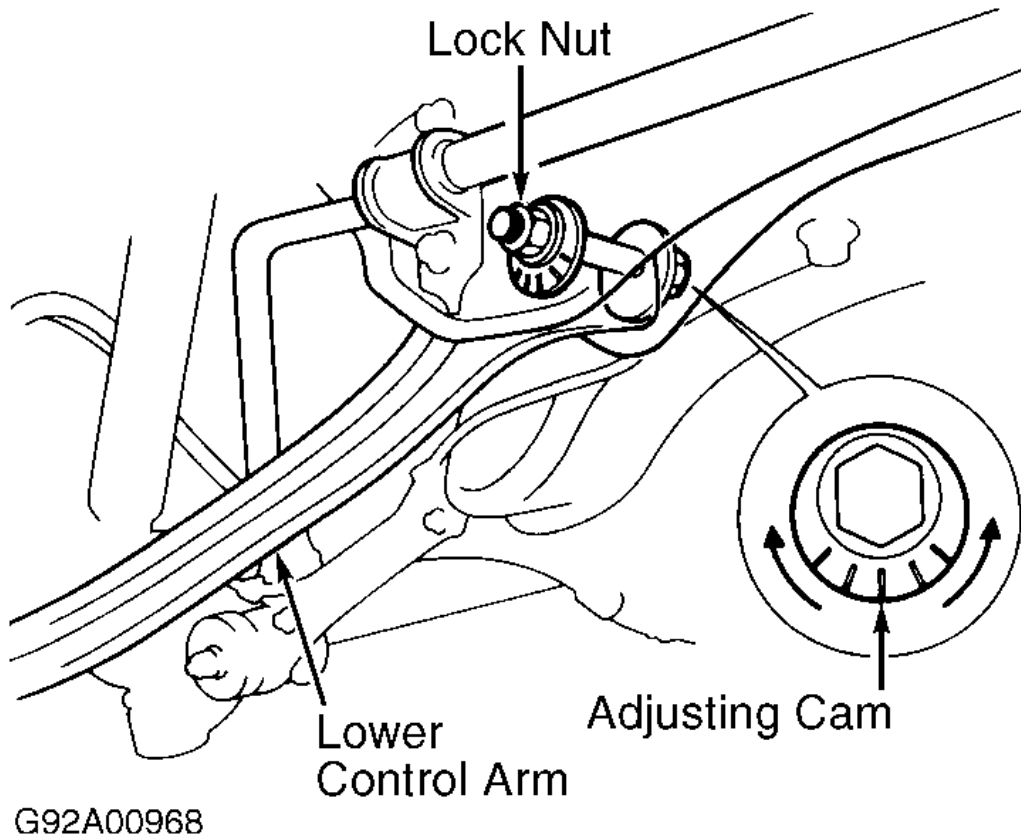

Fig. 3: Adjusting Rear Toe-In (Typical)
2. Hold adjusting bolt on lower control arm, and loosen lock nut. See **Fig. 3** . Turn adjuster bolt until toe-in is as specified. See **WHEEL ALIGNMENT SPECIFICATIONS** . Tighten self locking nut to specification while holding the adjusting bolt. See **TORQUE SPECIFICATIONS** .